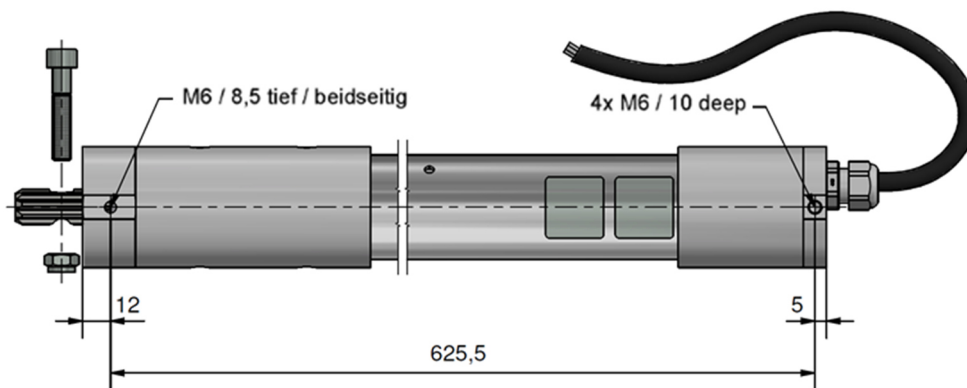
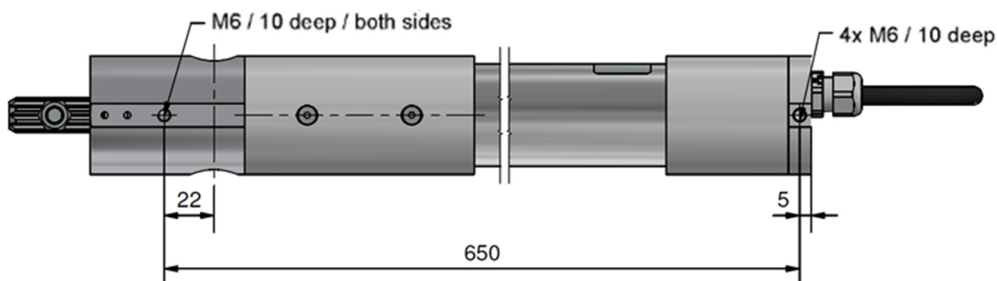

Figure 5-2: Mounting points 3062.00-0010
Figure 5-3: Mounting points 3062.00-V01XXX / 3062.00-0011
- Fasten the drive system using the mounting points provided on both sides in the housing and motor adapter, see Figure 5-2 and Figure 5-3. If the drive system is only fixed on the housing and not on the motor adapter, the motor can rotate freely and the function in the application may be restricted.